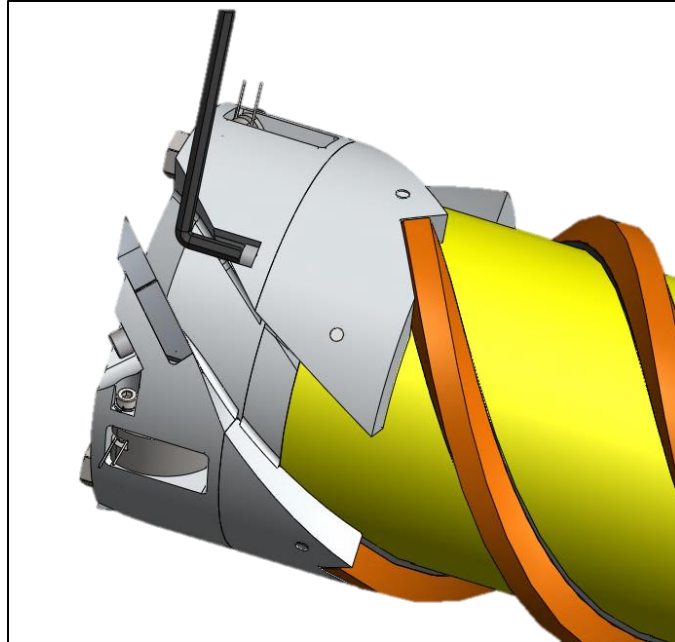

Figure 3: Removing the Cutter Head
6.3.3.1 Using the 9/64" Allen wrench, remove the three socket head cap screws that attach the cutter head to the barrel adapter (Figure 3).